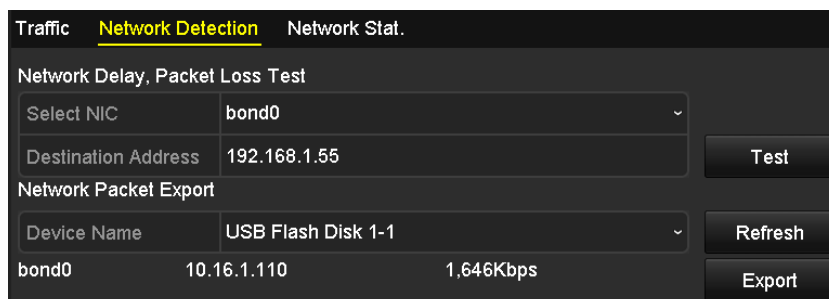

Figure 11-24 Export Network Packet
Step 3 Select the backup device from the drop-down list of Device Name, as shown in Figure 11-24.